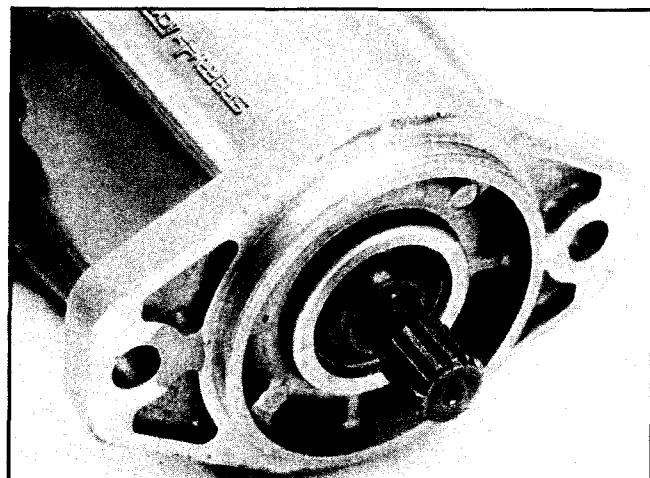

Figure 3. Motor Pilot Flange.
1. Direct Mounting - A pilot on the inline piston motor mounting flange (Figure 3) assures correct mounting and shaft alignment. Make sure the pilot is firmly seated in the accessory pad.